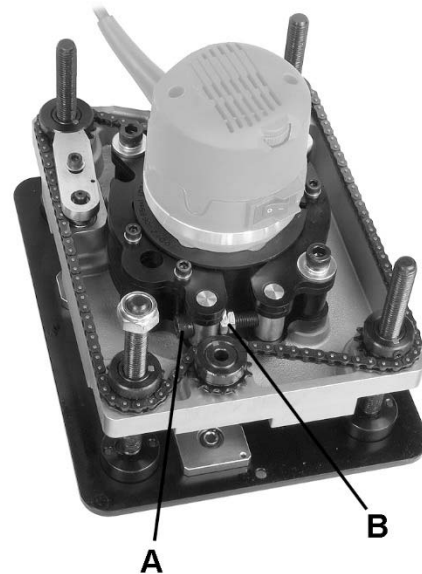

Figure 5-11
3. The universal clamp collar will secure any router without the need to match hole patterns on its mounting plate. Slide router (not provided) as far as it will go into router lift collar. If router body diameter is too small, install one of the provided adaptors into collar first, then install router. See Figure 5-11
5. Loosen two hex nuts (A, Figure 5-11) and tighten screw (B, Figure 5-11) with 8mm hex wrench. Retighten hex nuts to secure setting.